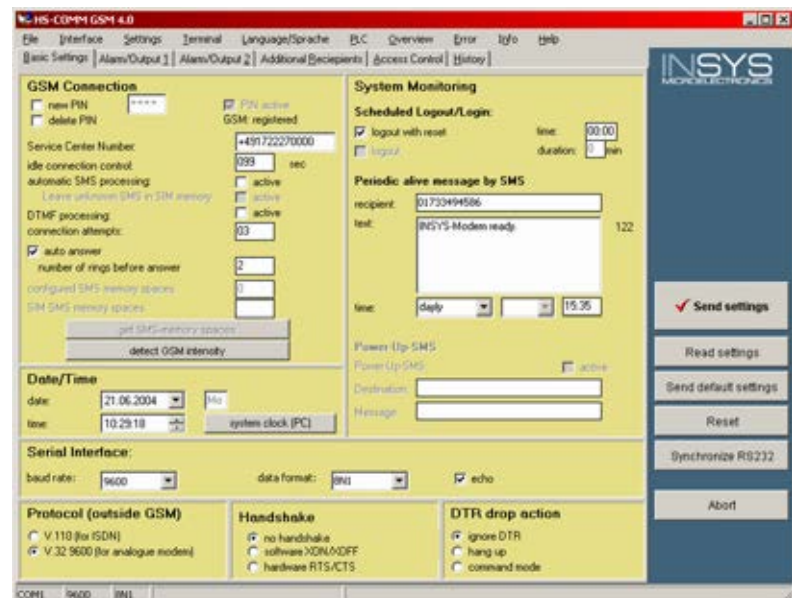

Fig. 179: GSM modem - basic settings
- ➔ Set up the modem as shown in (Fig. 179) on the “Basic Settings” tab.